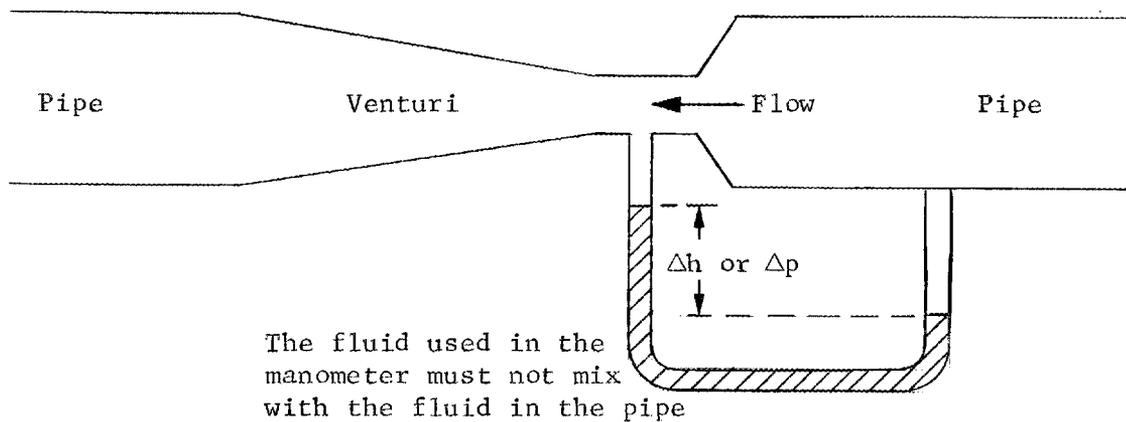

Fig. V-62. Venturi Flow Meter
31. Another flow element that depends upon the pressure drop across the instrument to measure flow is the venturi orifice. You will note from Figure V-62 that the venturi looks, even more than the orifice, like just a constriction in a pipe.